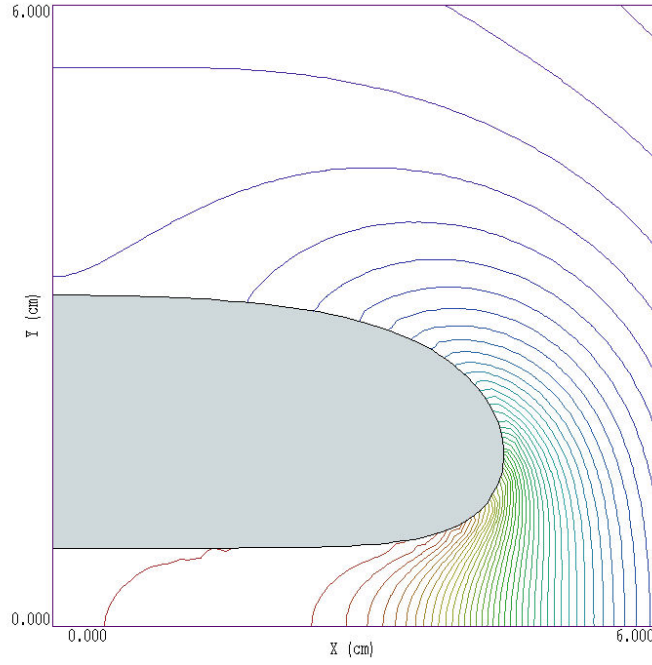

Figure 26: Secondary solution UNIFIELD02, showing lines of constant  $|\mathbf{E}|$ . Electrode has the shape of the 0.504 V equipotential line of UNIFIELD01.
The longer vectors are appropriate as input to **Mesh**, where line segments should be larger than the element size. Note that **EStat** has added the letter *L* at the beginning of each line so that the vector list can be ported directly into the boundary definition of a **Mesh** region. The listing was used to create the file UNIFIELD02.MIN. It was necessary to add an additional vector along the left-hand boundary to complete the filled region. Figure 26 shows a detailed view of  $|\mathbf{E}|$  contours near the electrode. As expected, the field amplitude on the surface decreases moving away from the center line of the electrode. The design could be modified in two ways:
**EStat** has powerful sorting features to arrange vectors in a continuous line. The procedure works well for the relatively simple shape of Fig. 26, but may encounter problems when lines are complex (*i.e.*, saddle points) or when there are multiple disconnected lines. In this case, it may be necessary to edit the vector list.